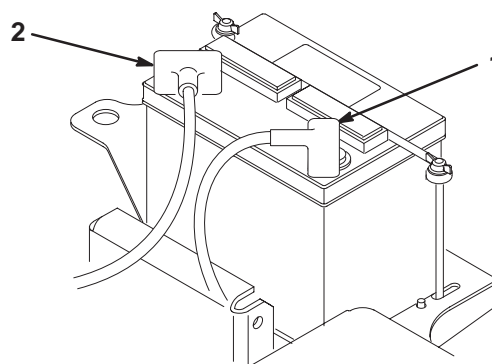

Figure 9
2. Connect the positive battery cable (red) from the starter solenoid to the positive post (+) of the battery (Fig. 9). Secure it with a wrench and coat the terminal with petroleum jelly. Make sure the cable will clear the seat, in the rear-most position, which could cause wear or damage to the cable.